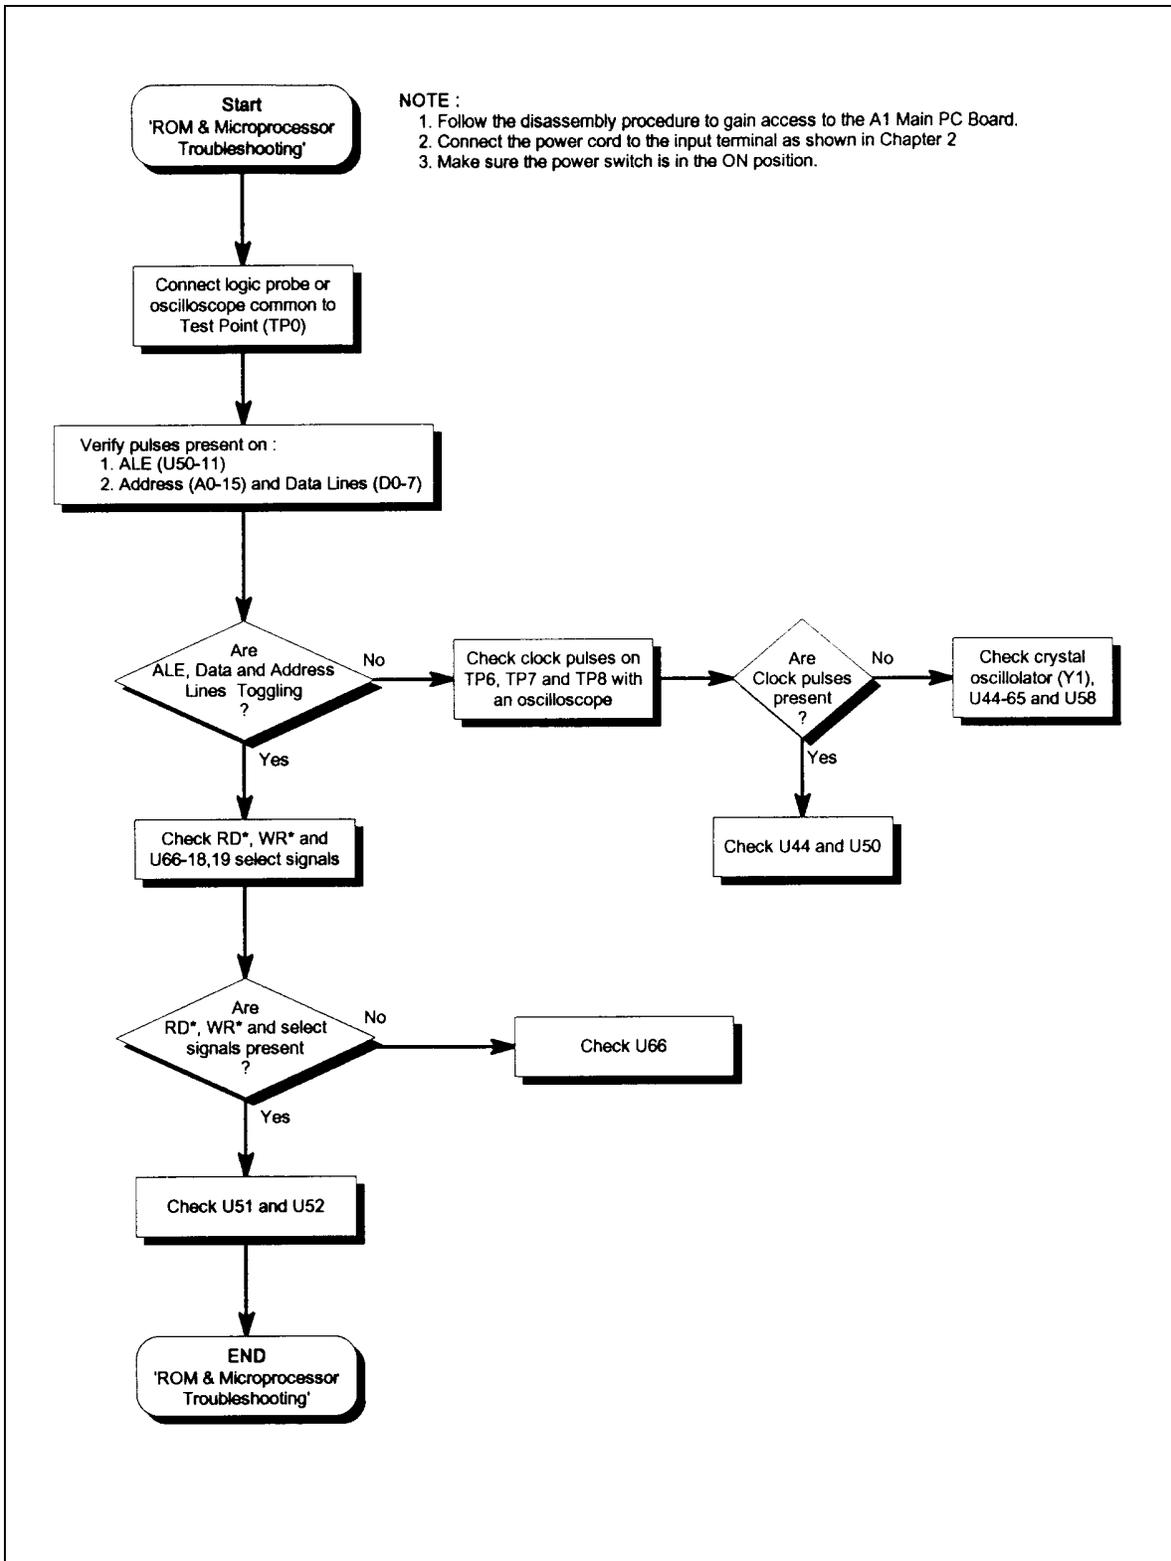

Figure 4-3. ROM & Microprocessor Troubleshooting
- Figure 4-3 - ROM & Microprocessor Troubleshooting.